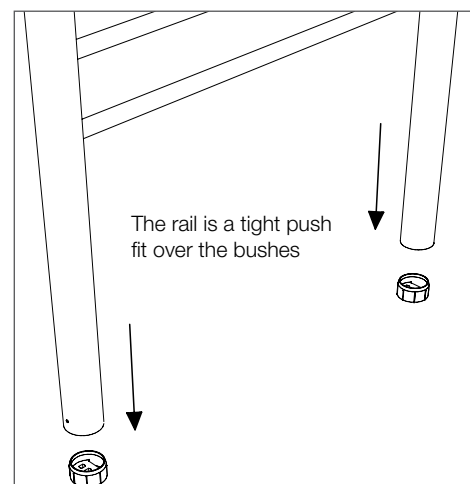

Fig 4.0
- Once aligned lower the towel rail over the bushes and secure using the countersunk stainless steel screws provided, through the tube wall into the bushes. See Fig 4.0 & 5.0